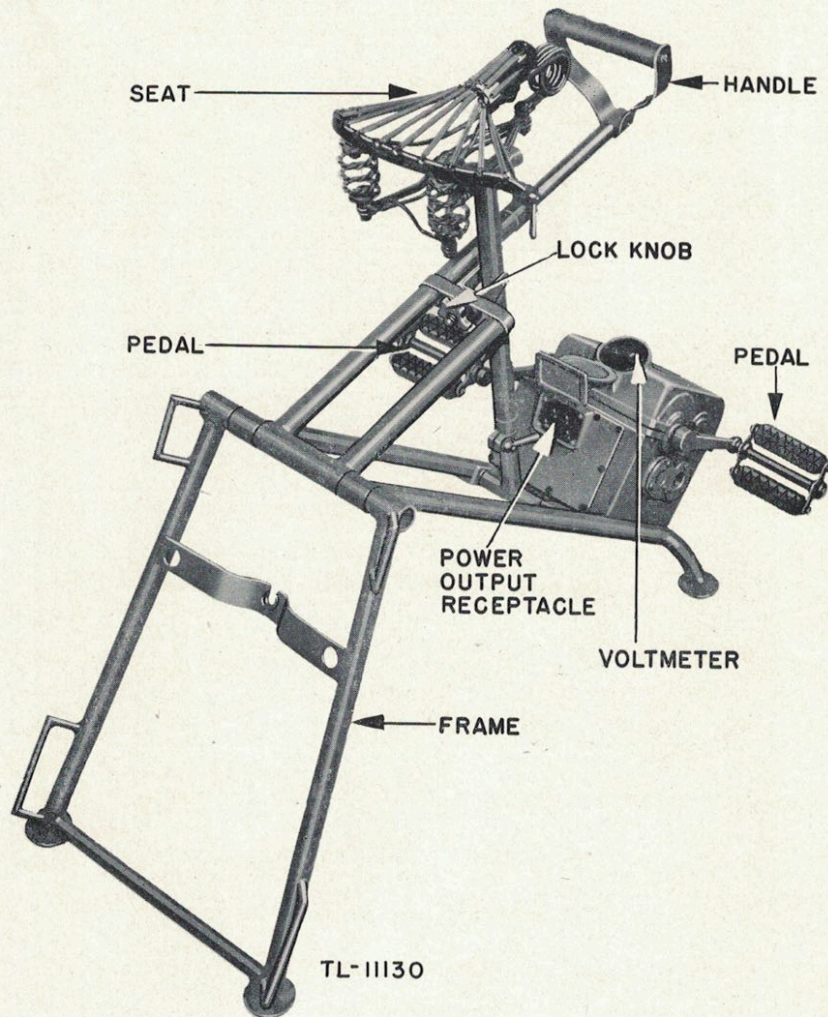
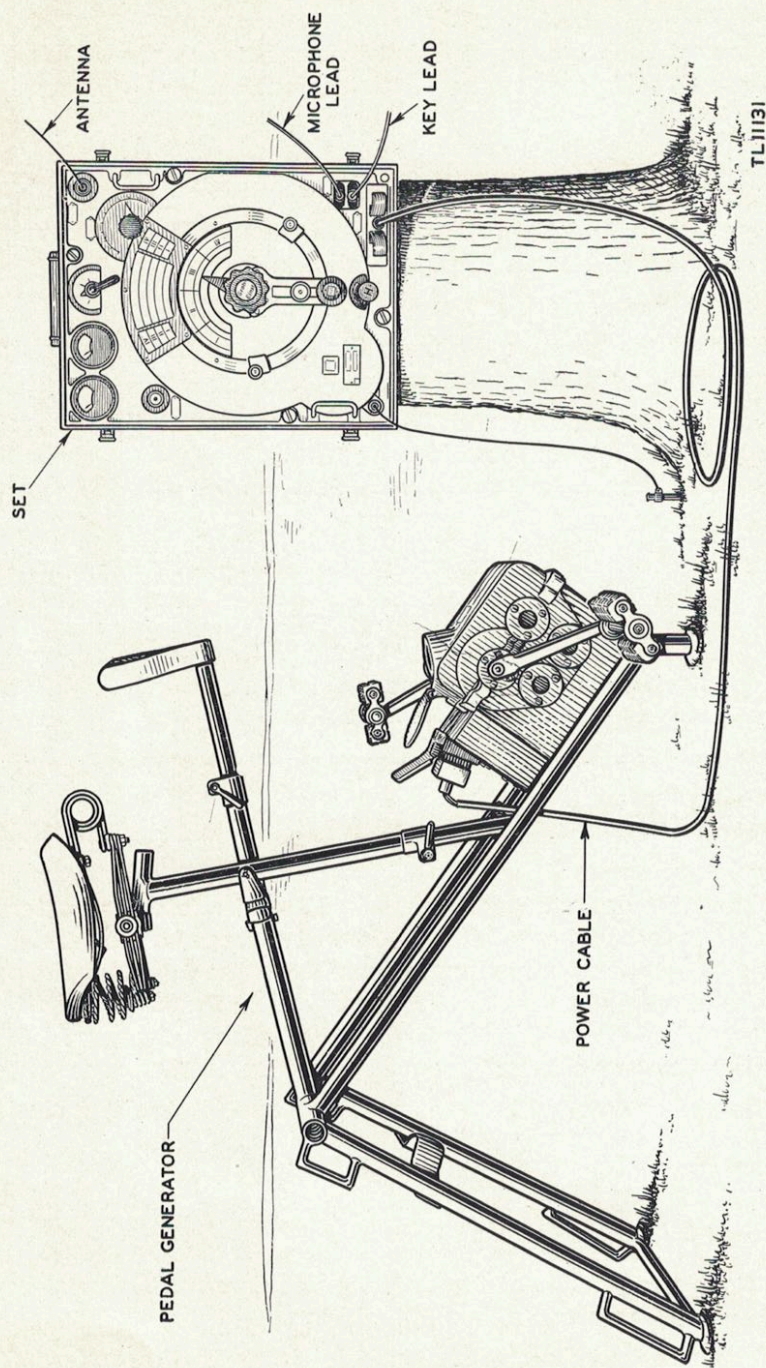

Figure 3. Pedal generator for German radio transmitter 5 W.S./24b-104.
Figure 8. German radio transmitter 5 W.S./24b-104, set up for operation from the pedal generator.
b. Pedal Generator. The pedal generator (fig. 3) is mounted on a frame similar in design to that of a bicycle. The generator has a low-voltage output for transmitter filament supply, and a high-voltage output of 330 volts at 150 milliamperes for plate supply. A voltmeter on the pedal generator enables the operator to know when he has reached the proper pedaling speed. The height of the seat can be adjusted and the handle lengthened to suit the operator. Figure 8 shows the pedal generator connected to the 5 W.S. and ready for operation.
(2) Connect a good ground or counterpoise to the **Erde** (ground) binding post.
(3) Connect the antenna lead from the receiver antenna binding post to the binding post on the **5 W.S.** labeled **Empf.-Ant.** ("to receiver antenna").
c. Pedal Generator. For ground-set operation, power is usually supplied for the **5 W.S.** from a pedal generator (fig. 3). Set up the pedal generator and the set as shown in figure 8. When using it in a ground installation, proceed as follows:
(1) Set the main switch to the **Aus** (off) position.
(2) Connect the power cable from the **5 W.S.** to the power output receptacle on the pedal generator.
(3) Raise the meter cover on the pedal generator so the voltmeter can be observed during operation.
(4) Proceed as directed in paragraph **5c**, steps (6) to (8) inclusive.